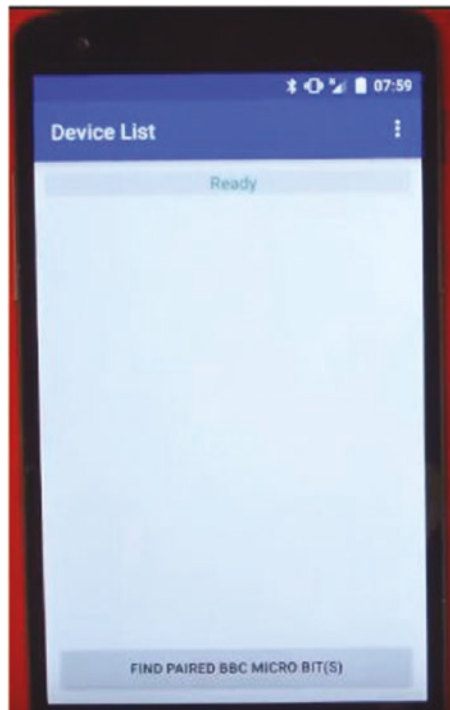

Figure B-23. Finding paired micro:bit(s)
1. Tap the FIND PAIRED BBC MICRO BIT(S) button at the bottom of the screen (see Figure B-23). The app will start to scan for paired micro:bit boards and display them on the screen.